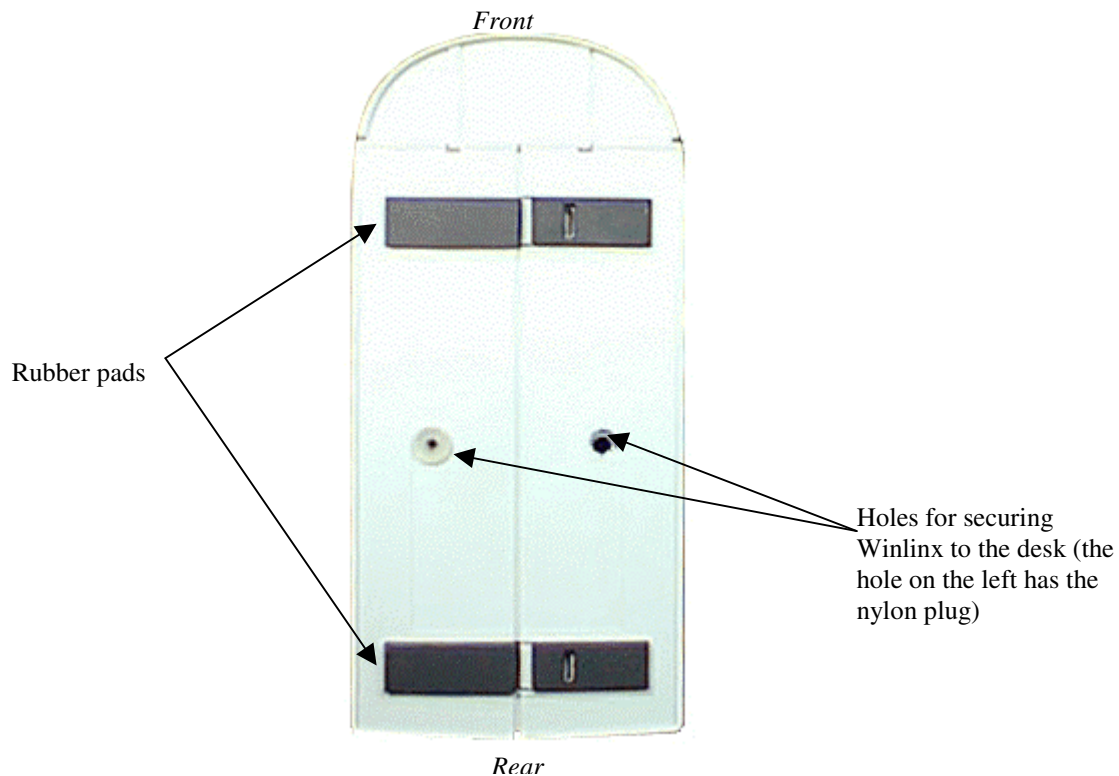

Figure 6: Base view of Winlinx
2. The base panel (see Figure 6) of Winlinx has two tapped-holes for securing the unit. One of the holes is closed with a Nylon plug. Lift the unit, hold it upright, pull out the Nylon plug and carefully place the unit on a flat surface.